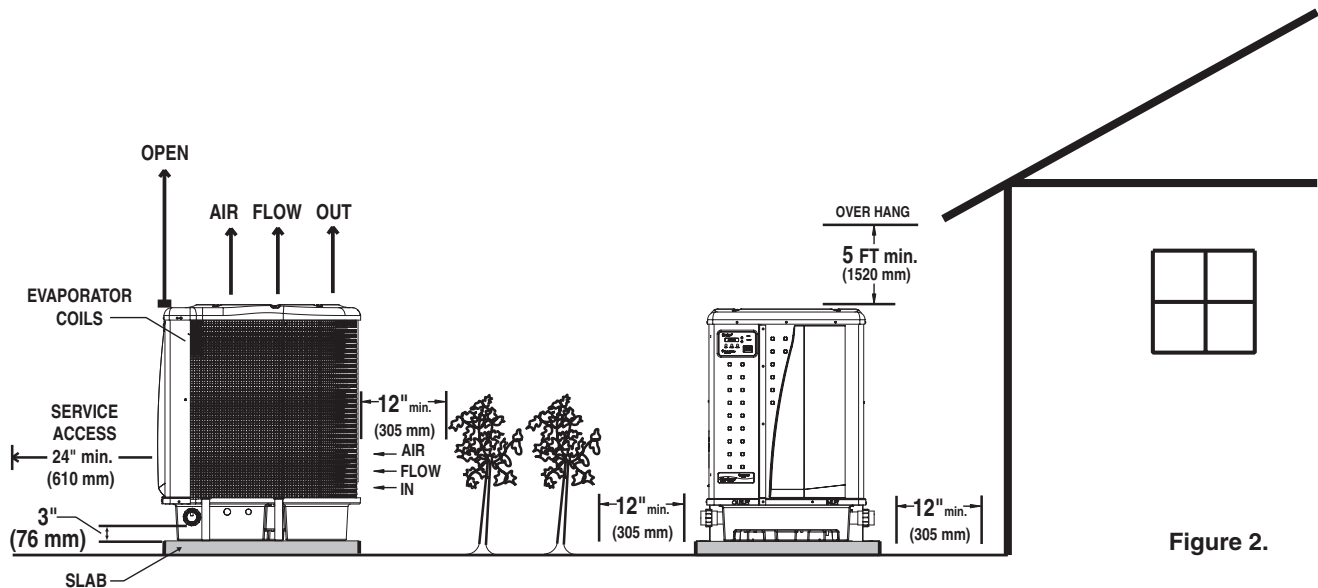

Figure 2.
1. At least 24 in. [610 mm] access must be available in the front and 12 in. [30.5 mm] on all the other sides of the heat pump for service and proper air flow, see Figure 2. (Manufacturer's recommendation).
2. If the heat pump is to be installed under a cover or under a vertical overhang, the unit must have a minimum of five (5) feet [1520 mm] clearance from the top of the heat pump. (Manufacturer's recommendation).
3. Install a minimum of five (5) feet [1.52 m] from the inside wall of the pool or spa unless the heat pump is separated from the pool or spa by a five (5) foot high solid fence or other permanent barrier. Canadian installations require a minimum of three (3) meters from pool water.
Make sure the heat pump is not located where large amounts of water may run-off from a roof into the unit. Sharp sloping roofs without gutters will allow massive amounts of rain water, mixed with debris from the roof to be forced through the unit, see Figure 2. A gutter or down spout may be needed to protect the heat pump.